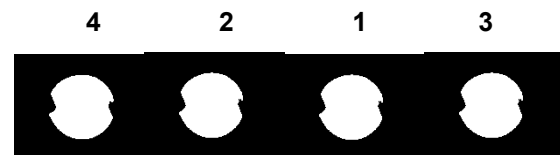
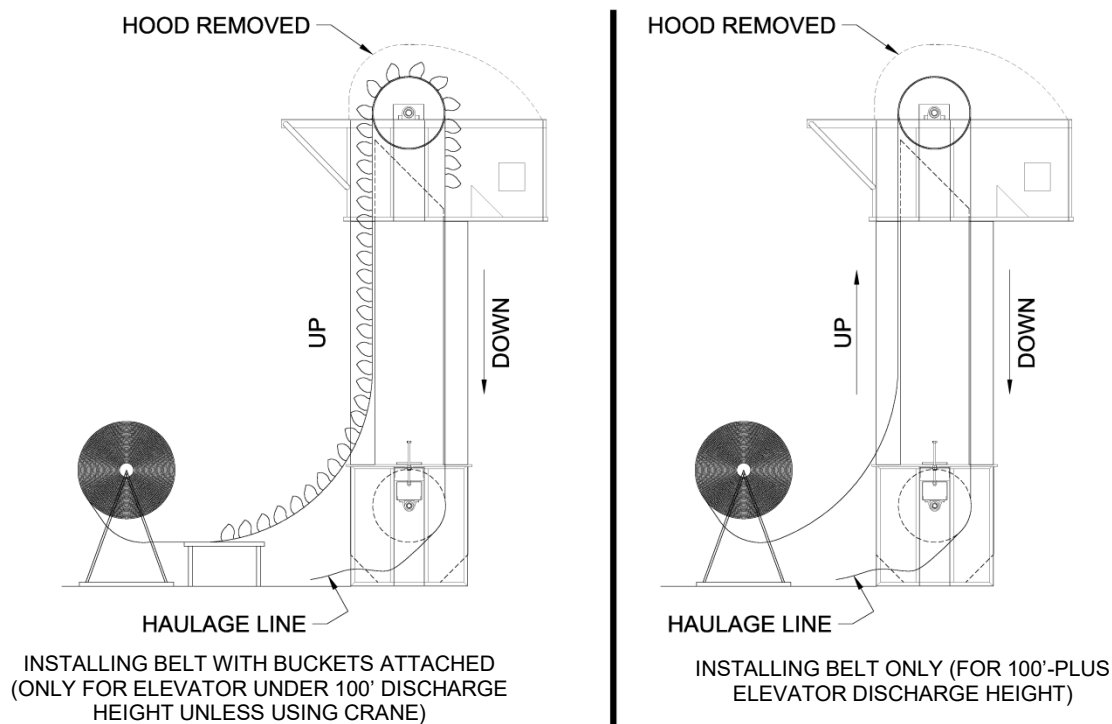

Fig. 27 – Positioning of fanged bolts
Fig. 31 – Installing belt with cups (left) or without cups attached (right)
4. Rig a rope or cable (haulage line) through inspection section of UP leg through which belt will be pulled into elevator. See Fig. 31. Rope or cable is then hauled up the **UP** leg side, over the head pulley, and down the **DOWN** elevator leg. Usually, rope or cable can be passed around boot take-up pulley and out of cleanout to a winch so belt can be pulled into elevator. A spreader bar should be fabricated to connect rope or cable to belt.
Figs. 26-29 show attachment of buckets. They can be attached either before or after belt is installed (See Fig. 31) depending on height of elevator and lifting equipment (crane) availability. In either case, be sure to position fanged bolts as shown in Fig. 27. Tighten bolts from center of bucket and work toward ends, alternating sides as shown in Fig. 27. This will help keep bucket centered on belt and ensure proper belt tracking. Nuts should be torqued to 4 ft. lbs. for 1/4" bolts and 6 ft. lbs. for 5/16" bolts. Belt comes pre-punched as determined at time of order. Contact Sukup Manufacturing Co. if belt was supplied by others.
There are two basic methods of installing belt in an elevator (with cups attached or without) depending on height of elevator and lifting equipment (crane) available. See Fig. 31.